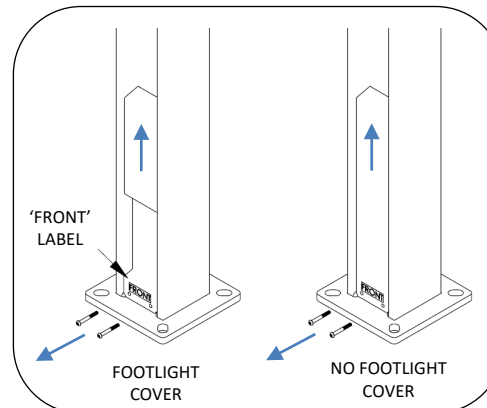
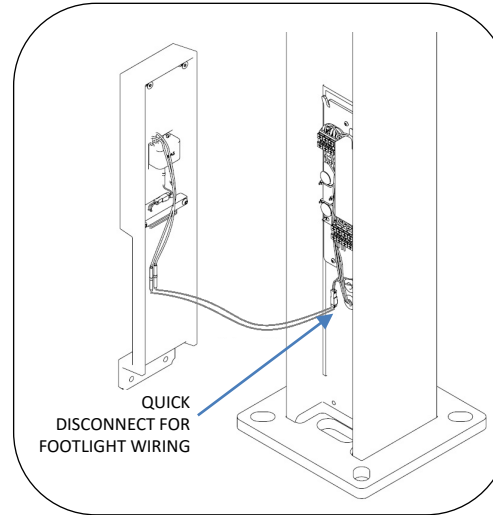

Fig. 1 – covers
Fig. 3 – Remove driver cover (shown with footlight)
1. Using 5mm hex key, remove driver cover plate, see Fig. 1. Remove button head screws and set aside. Slide cover plate up and out to disengage from pole. For units with a footlight, the footlight driver is secured to the cover plate. Remove gently, using caution not to break the wiring from the cover plate. See Fig. 3. Disconnect footlight driver at quick-disconnect.